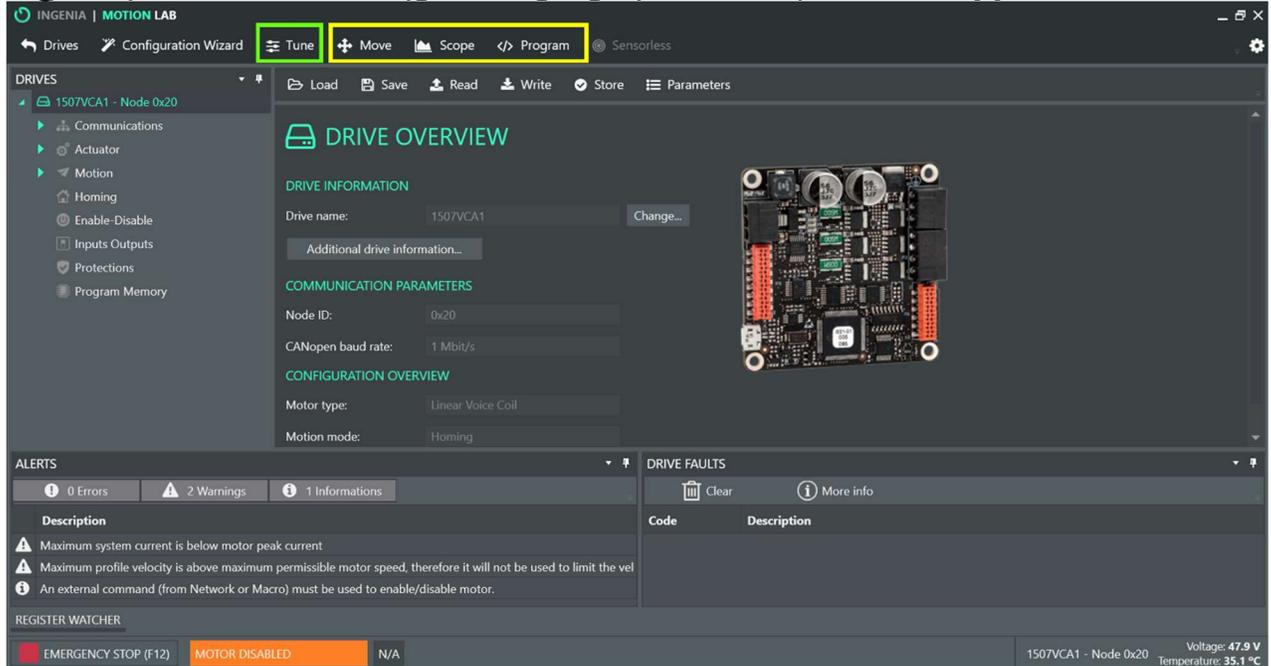

Fig. 24: The Move, Scope, and Program menu buttons.
5) We will focus here on the Move, Scope, and Program tabs (highlighted in yellow in **Fig. 24**). The Tune menu (green highlight) will be explained in **Appendix D**.